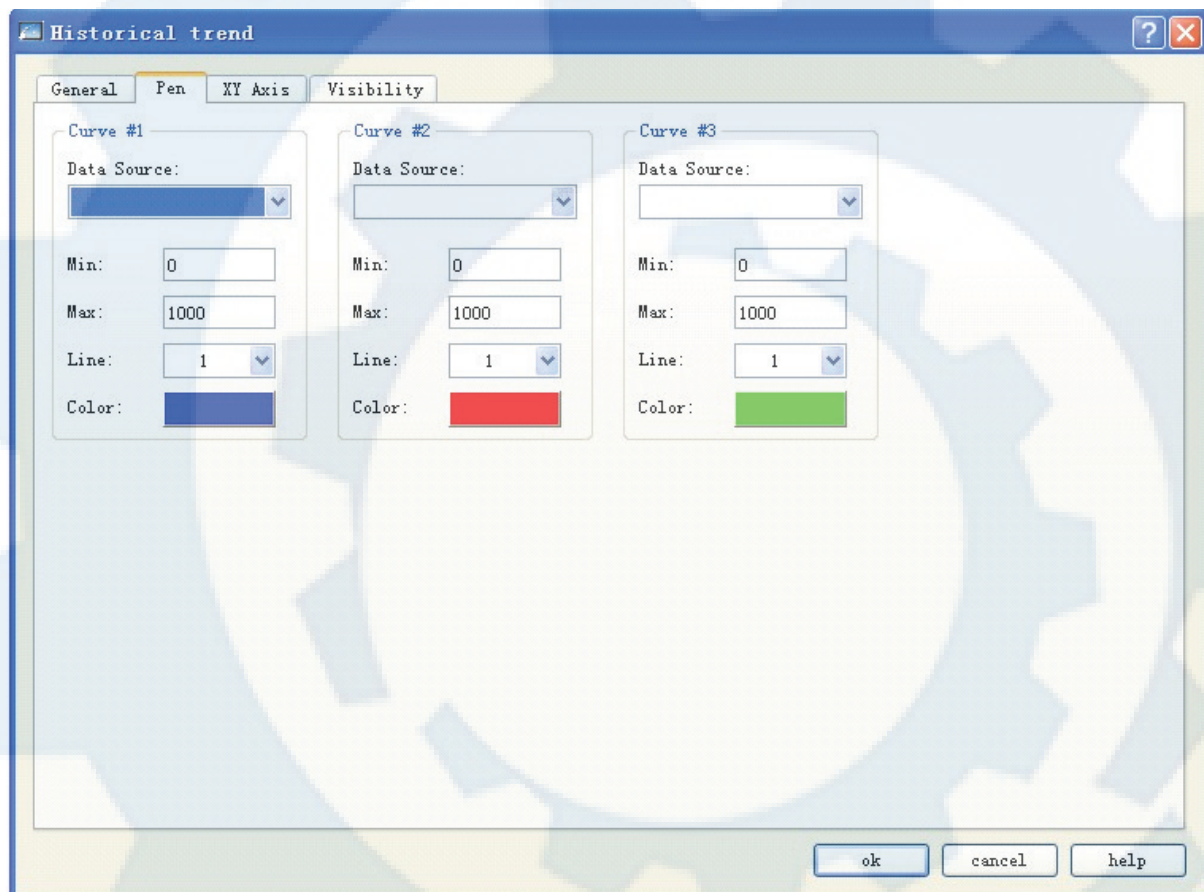

Figure 4-59: Pen tab of historical trend chart
2. Page of "Pen" in historical tendency chart as shown in Figure 4-59: